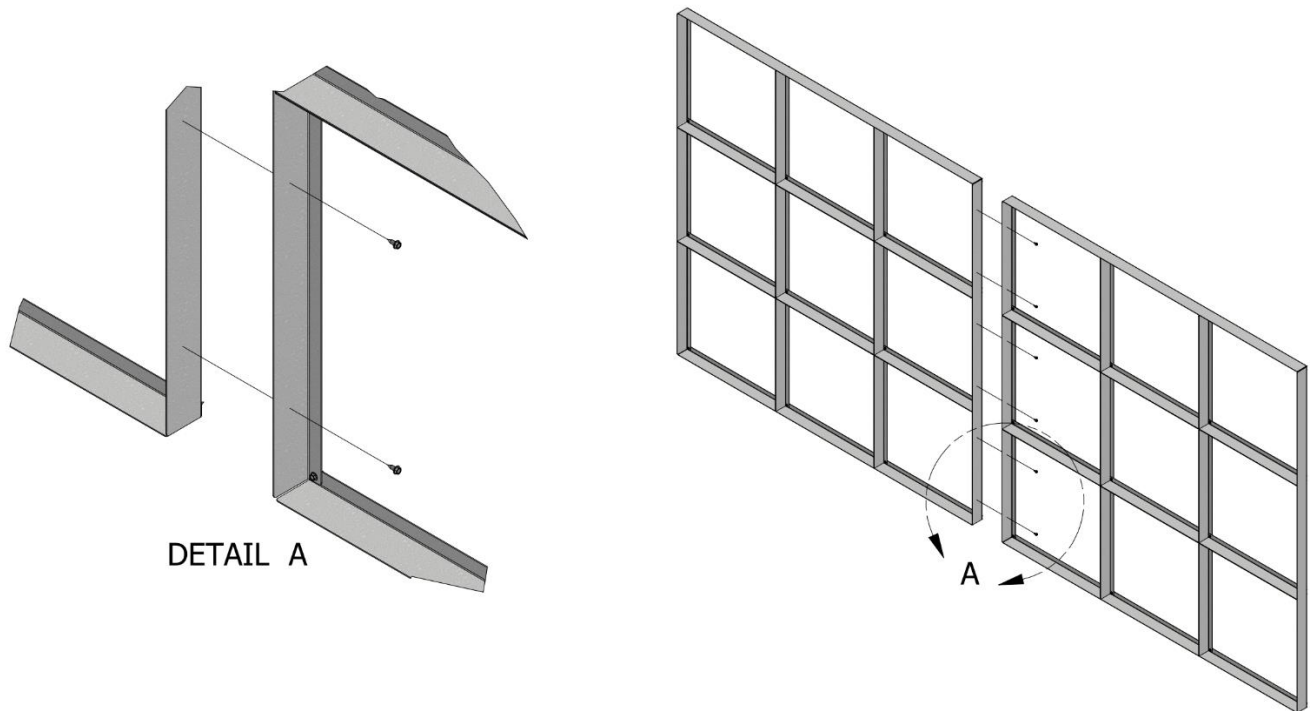

Figure 2 - Large Filter Grid Assembly
- When assembling large filter grids, assemble each section first. Then attach the sections to each other by piercing the outside edges with provided hardware as shown in Figure 2.